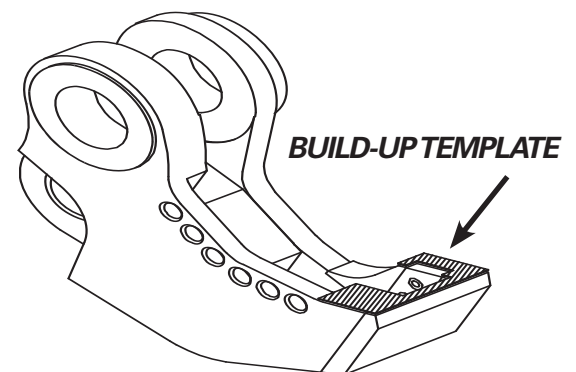

FIGURE 7-53
2. Determine the amount of build up and hardsurfacing required. There are two ways to do this. Use a straight edge on the inside of the shear blades and guide blade (see Figure 7-52), or use the lower profile build-up template supplied by LaBounty (see Figure 7-53).